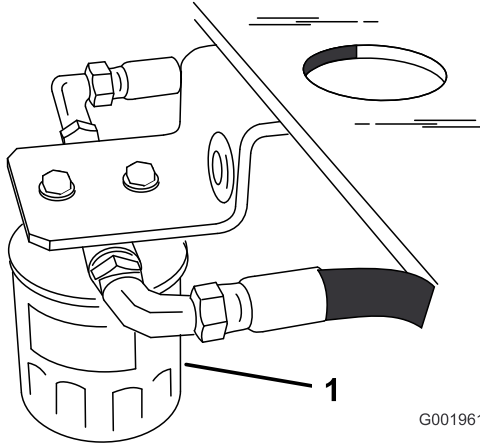

Figure 48
4. Locate the filter under the fuel tank and place drain pan under filter (Figure 48).